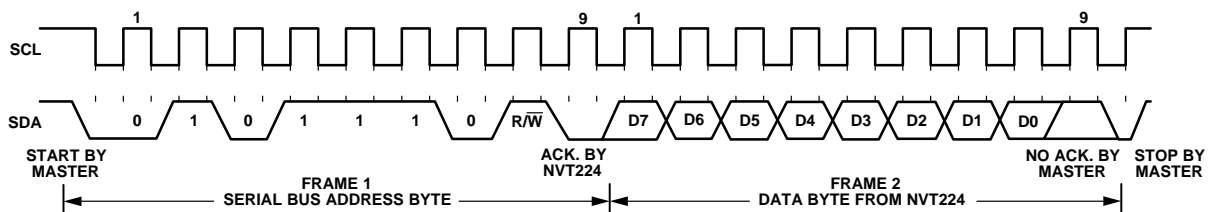

Figure 15. Reading Data from a Previously Selected Register
A read operation is then performed consisting of the serial bus address; the R/\overline{W} bit set to 1, followed by the data byte read from the data register see Figure 15.
- If the address pointer register is known to be already at the desired address, data can be read from the corresponding data register without first writing to the address pointer register see Figure 15.